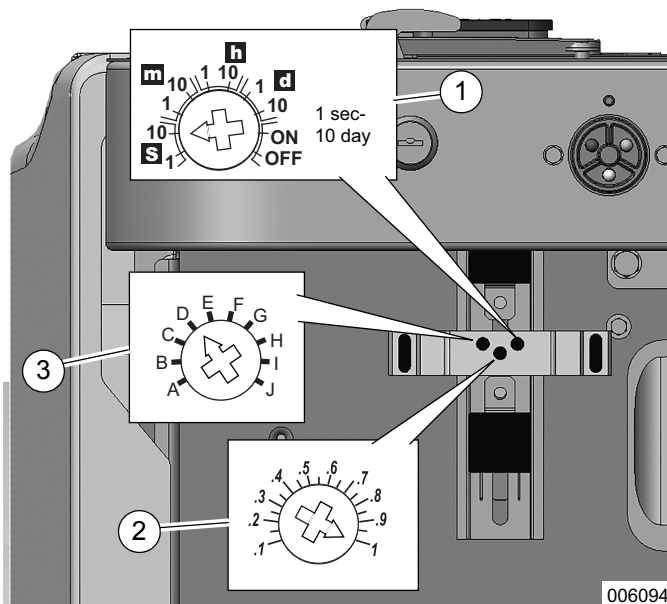

Figure 5-6. Timer Relay Settings
- See Figure 5-6. The timer relay includes an adjustable timing dial (1), a fine time dial (2) to be set full clockwise, and a function dial (3) to be set at “D.”